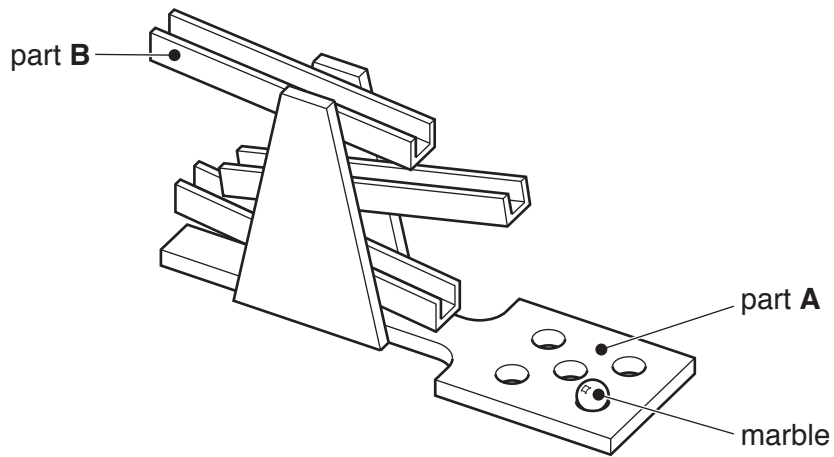

**Fig. 2**
- 2 Fig. 2 gives details about a pop-up card and an envelope that are to be made in a school workshop.